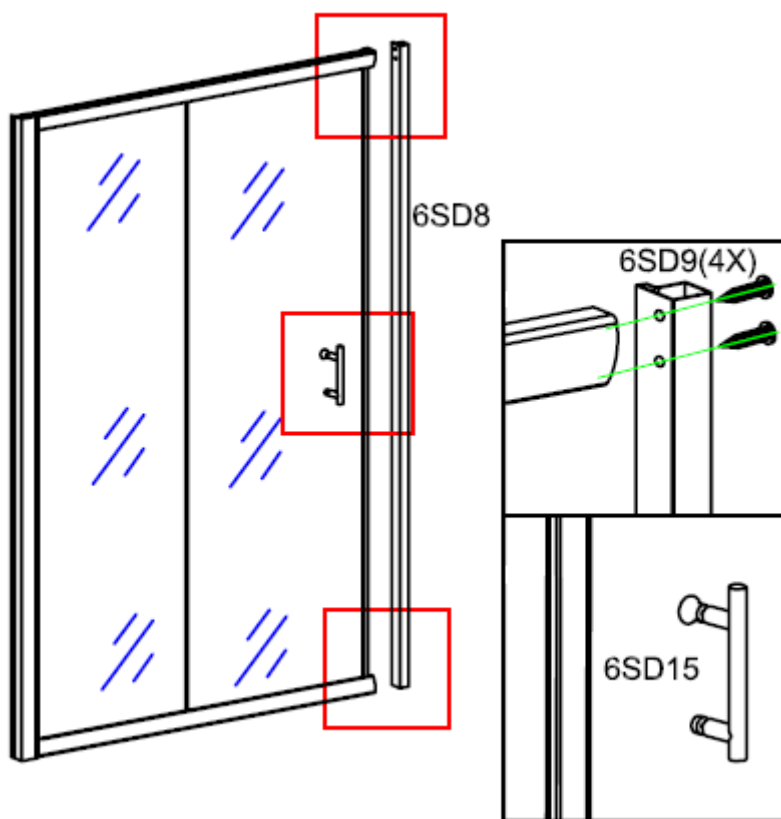

Figure 8
8. Fix the vertical profile(6SD8) with step(7).Install the handle onto the glass door,as showed in figure 8.